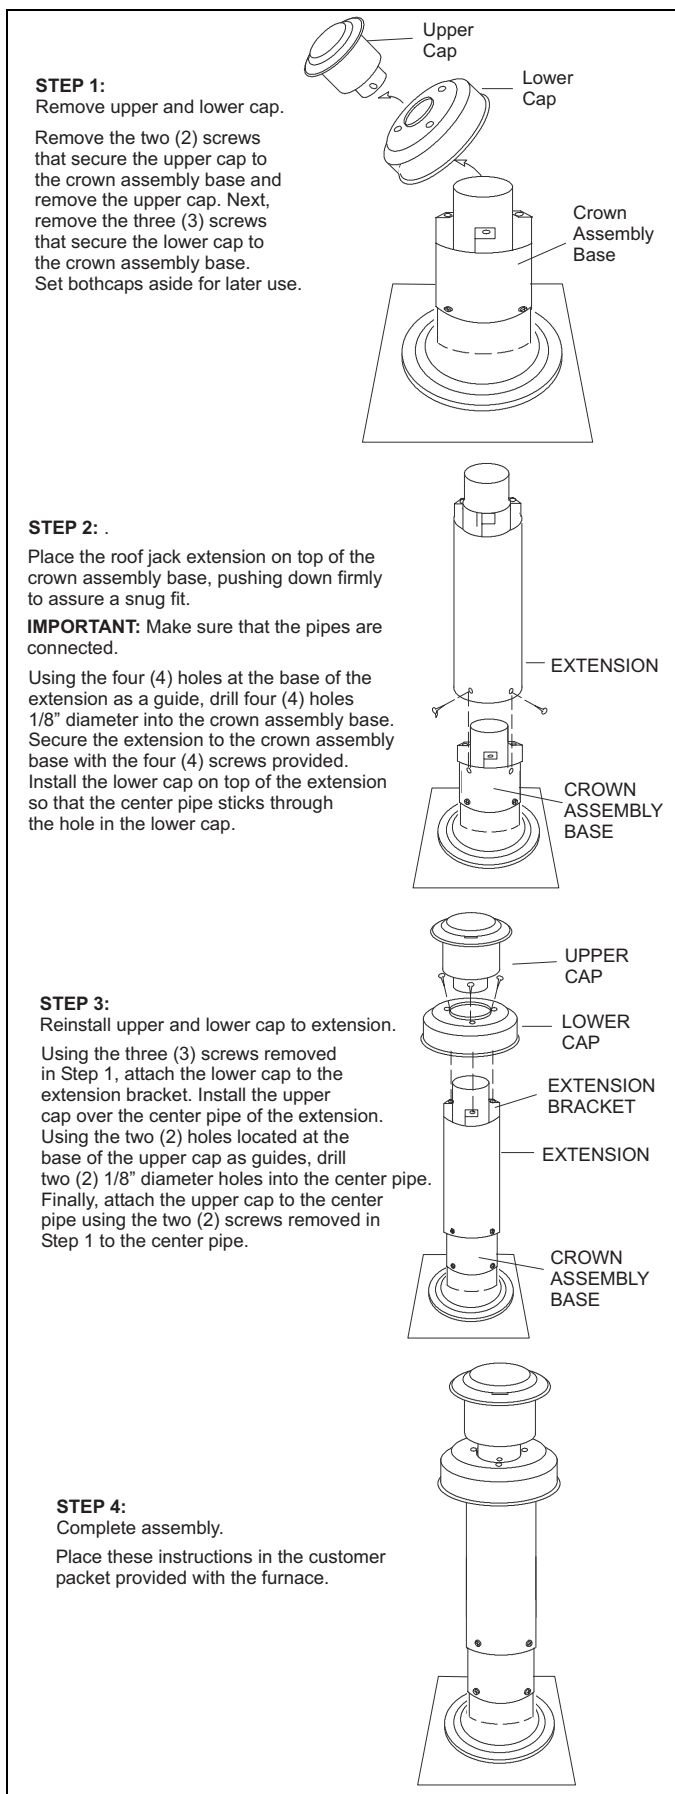

FIGURE 32: Installing Roof Jack Extension
1. Install Exterior Roof Jack Extension, if applicable. Refer to installation instructions provided with Exterior Roof Jack Extension. Refer to Figure 32.
2. Install Crown Assembly, if applicable. Refer to installation instructions provided with Crown Assembly. If Crown Assembly is not installed, attach warning tags provided with Roof Jack to: Refer to Figure 32.